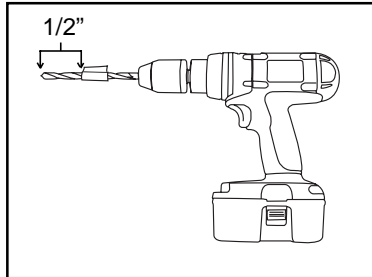
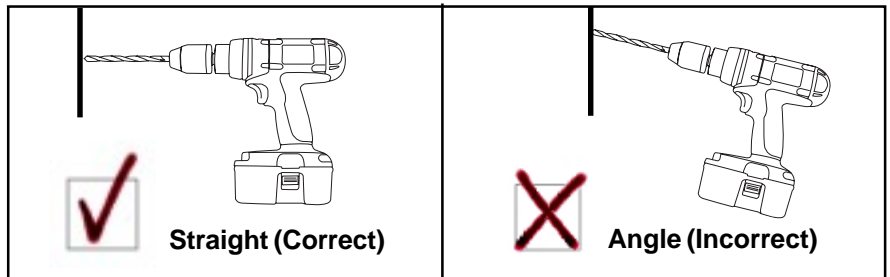

Figure 15.
Figure 16.
**Caution:** Before performing the following step, ensure that the drill bits to be used are sharp and wrap the bits with masking tape (see Figure 15.) or with a drill-stop collar at 1/2" depth max. Ensure that the drill is pointed straight in the direction of the hole(s) and not at an angle (see Figure 16.).